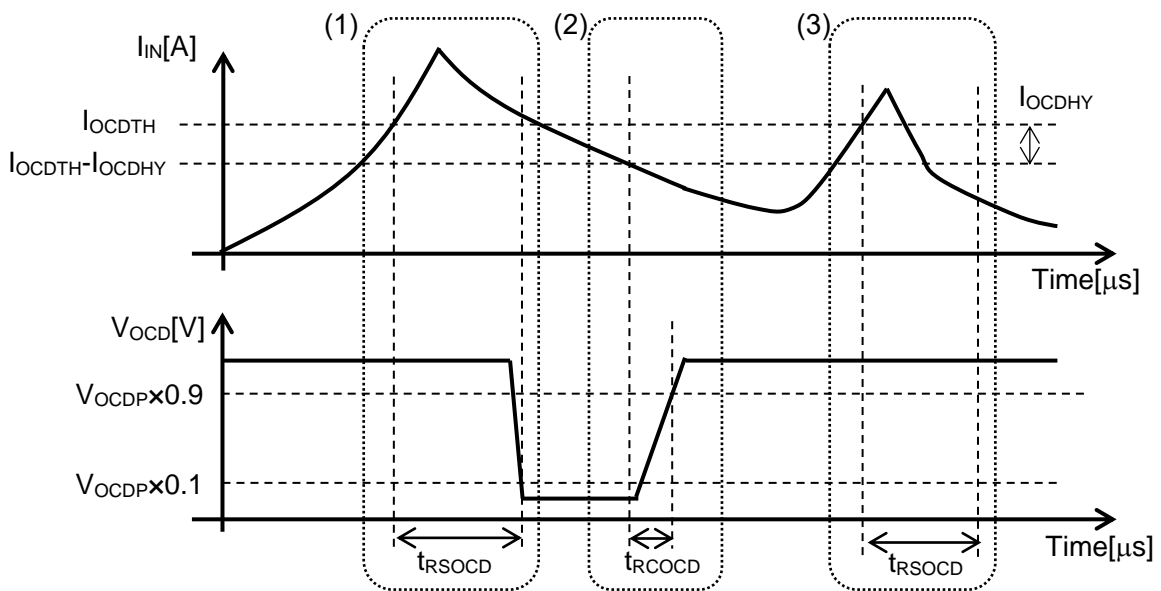

Figure 6. Overcurrent Detection Function of CZ-3A05
**10.4. Overcurrent Detection Function is operated as below. (See figure 6.)**